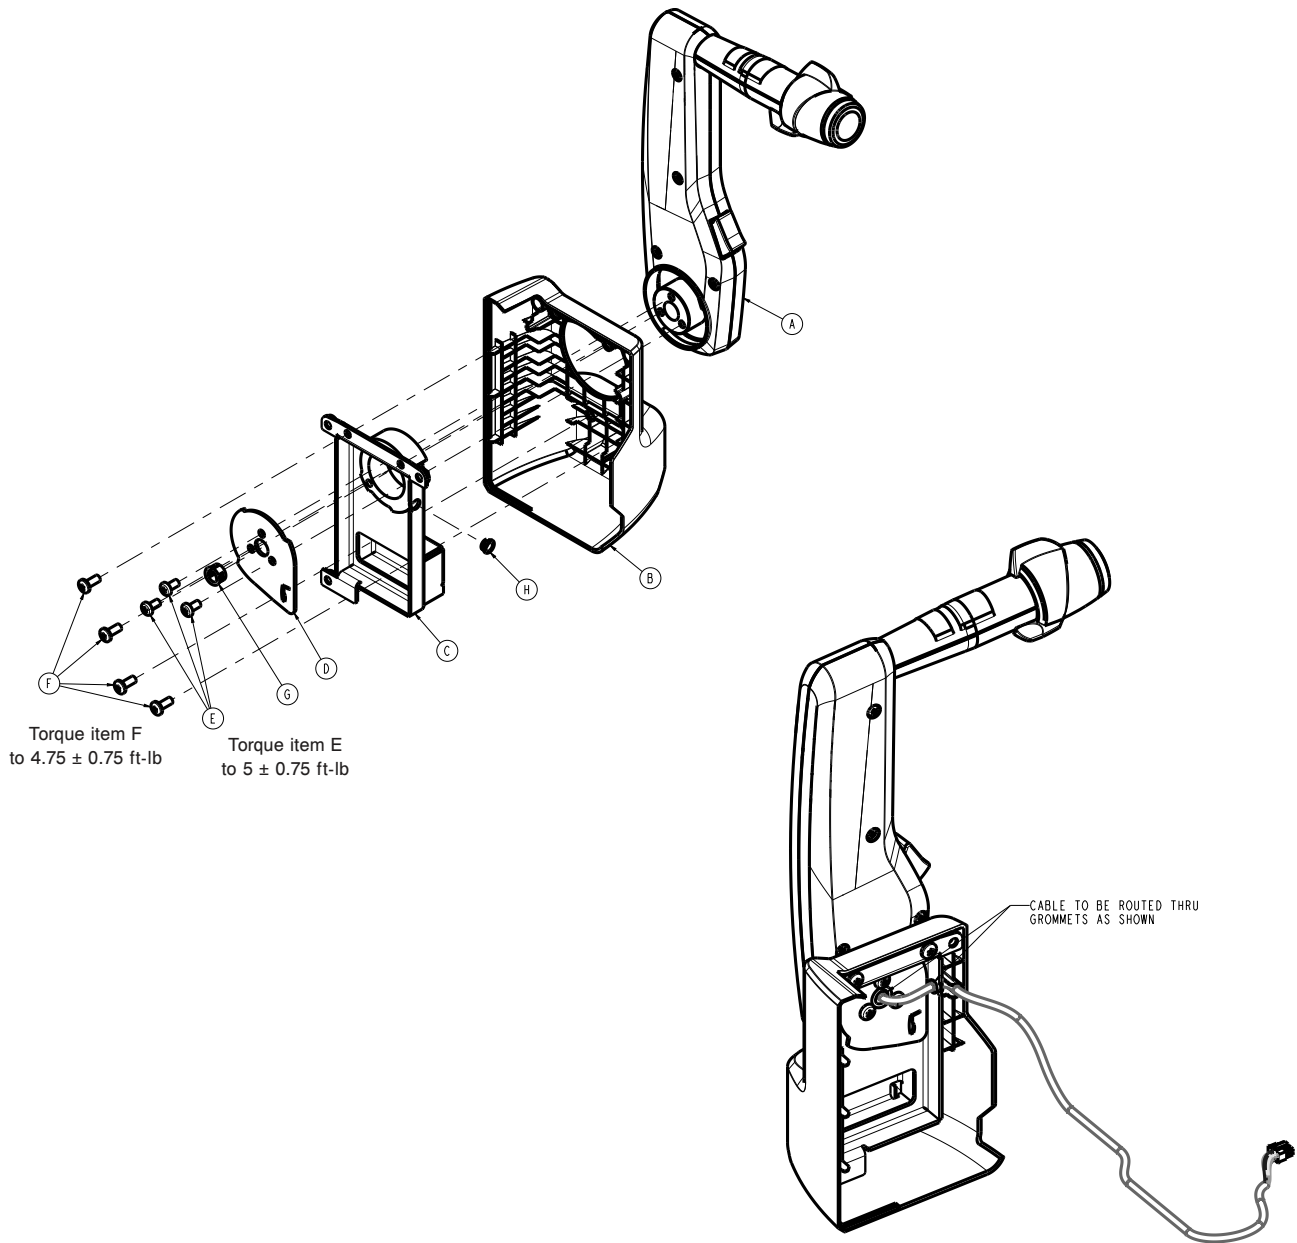

Figure 52 – Removing the Zoom drive handle
12. Using a T30 Torx driver, remove the three screws (E) that secure the Zoom drive handle (A) to the bumper (B) and remove the pivot plate (D) (Figure 52). Save the pivot plate.